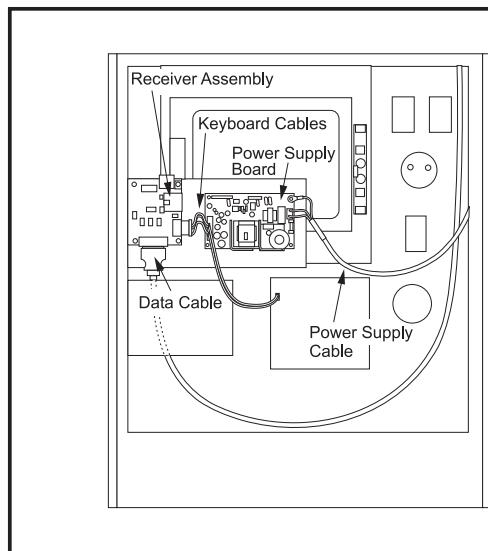

Figure 4.5-1 Interior of control panel (rear).
7. Replace by sliding the new assembly onto the four bolts (two each on top and bottom). Place the washers and hex nuts on the bolts to hold in place. Refer to Fig. 4.5-1. Once all washers have been attached and nuts have been hand-tightened, tighten down completely.